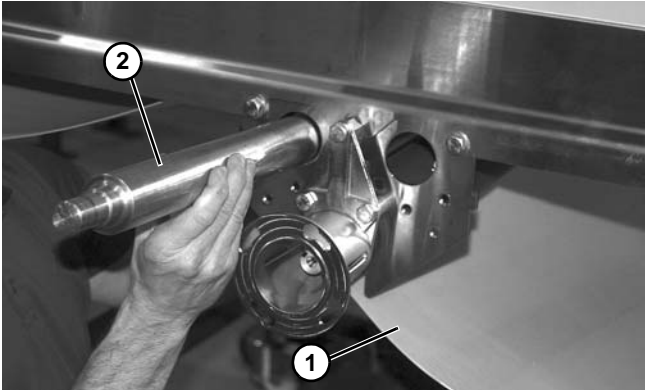
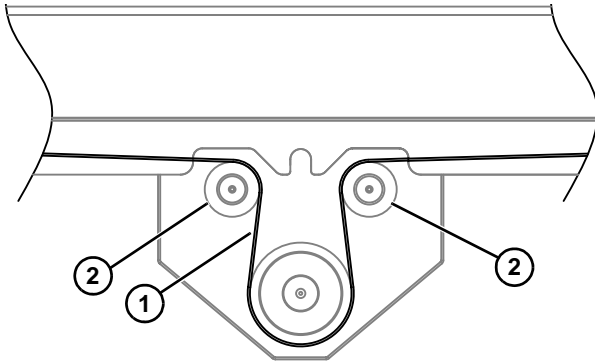

Figure 22
Figure 23
5. Install belt (Figure 22, item 1) and (Figure 23, item 1) round two idler spindles (Figure 22, item 2) and (Figure 23, item 2) on center drive assembly.